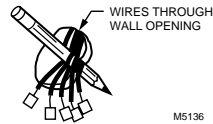

Fig. 2. Wrapping wires around pencil.
- Disconnect wires from old thermostat or subbase. As you disconnect each wire, use wire labels to identify the old terminal designation. If there are only two wires, they do not need labeling. Wrap wires around a pencil to keep them from falling back into the wall as shown in Fig. 2.